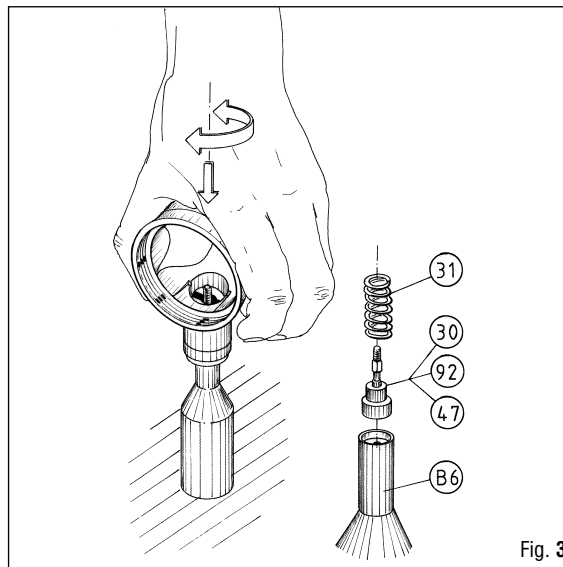

Fig. 3
- A.1** Place the 2nd stage poppet assembly (30-47-92) together with its spring (31) on the special tool (B-6).
- A.2** Insert the 2nd stage case (32) on the poppet assembly with spring and exert a slight pressure so that the poppet protrudes from the 2nd stage case. (Fig. 3)